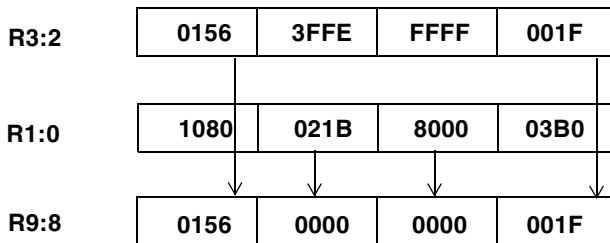

Figure 8-6. Example in Quad Short
SR9:8 = MIN (R3:2, R1:0) (Z);; see *Figure 8-6*